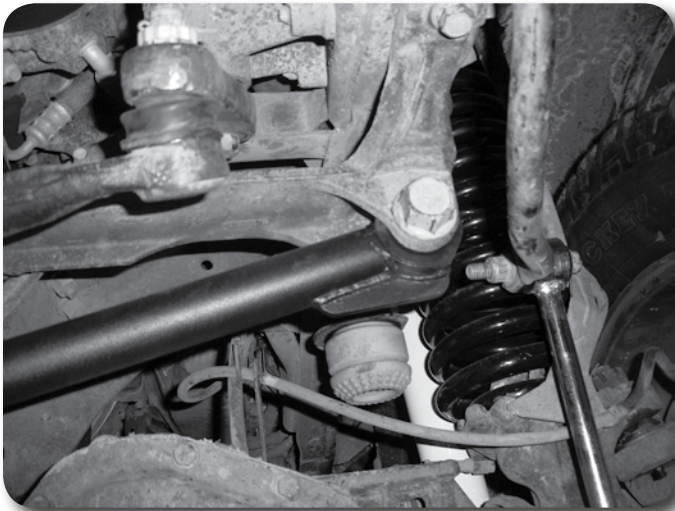

Figure 18
40. Install the new track bar into the factory frame bracket. **Figure 18** Lightly grease the faces of the bushings to ease installation. Fasten with the factory hardware and torque to 405 ft-lbs.